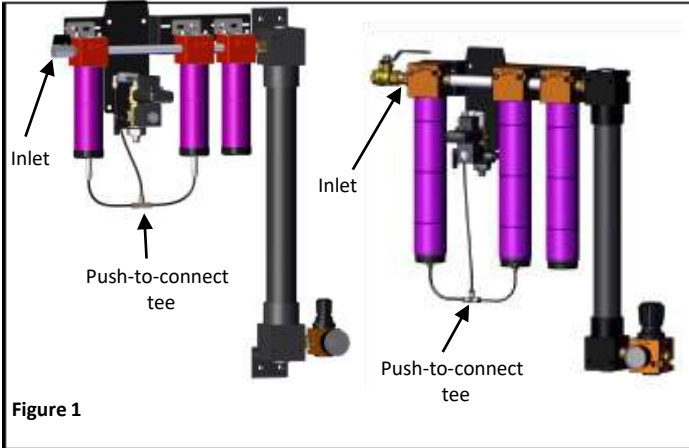

Figure 1
2. Install the supplied ball valve to dryer inlet directly or with the use of the ½” NPT hex nipple. *Figure 1*